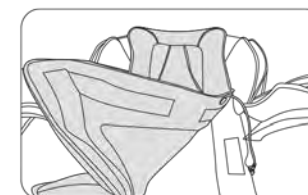

Figure 2
- Remove the back cushion. Ensure the heat wire in the cushion is unplugged before removing. (Figure 2)